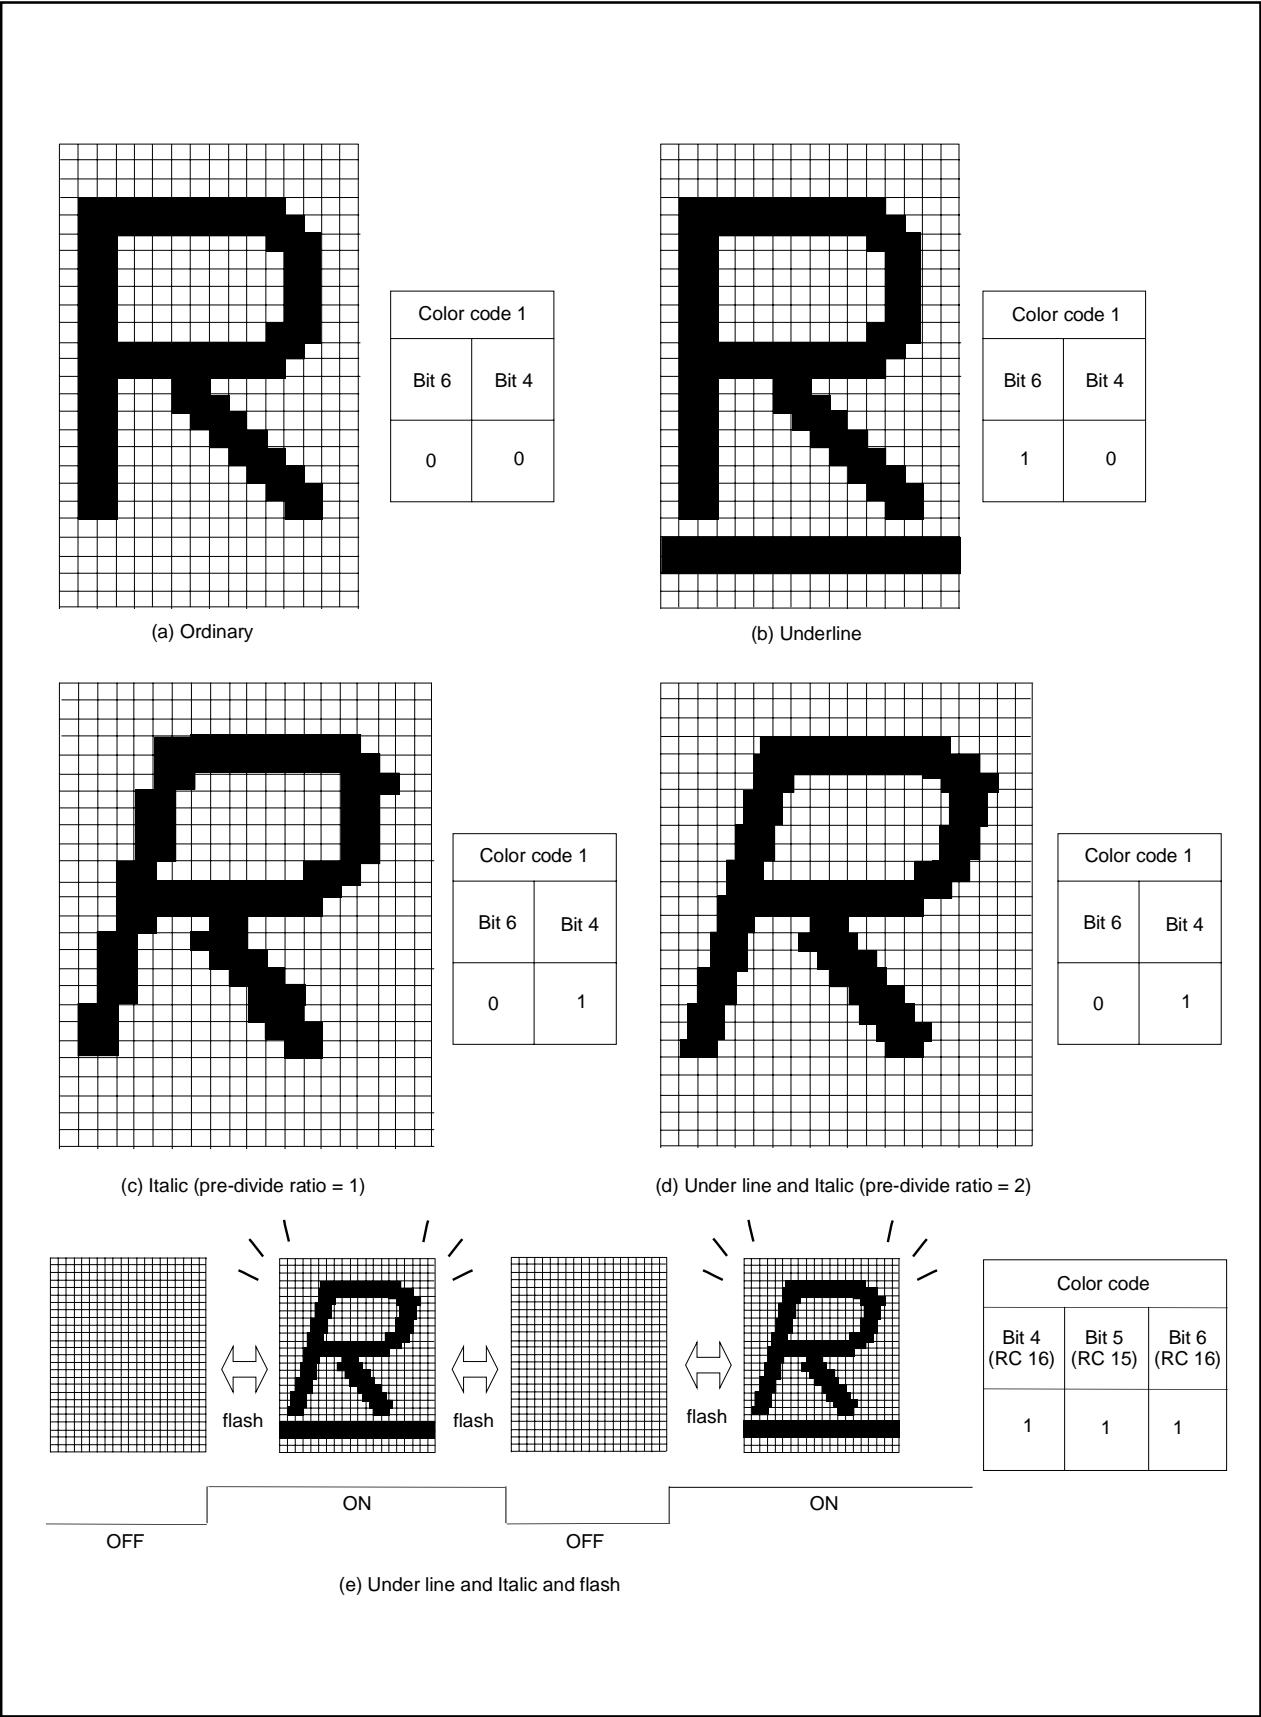

Figure 2.16.32 Example of attribute display (in CC mode)
**4:** When the pre-divide ratio = 1, the italic character with slant of 1 dot X 5 steps is displayed ; when the pre-divide ratio = 2, the italic character with slant of 1/2 dot X 10 steps is displayed (refer to Figure 2.16.32 (c), (d)). However, when displaying the italic character with the pre-divide ratio = 1, set the OSD clock frequency to 11 MHz to 14 MHz.